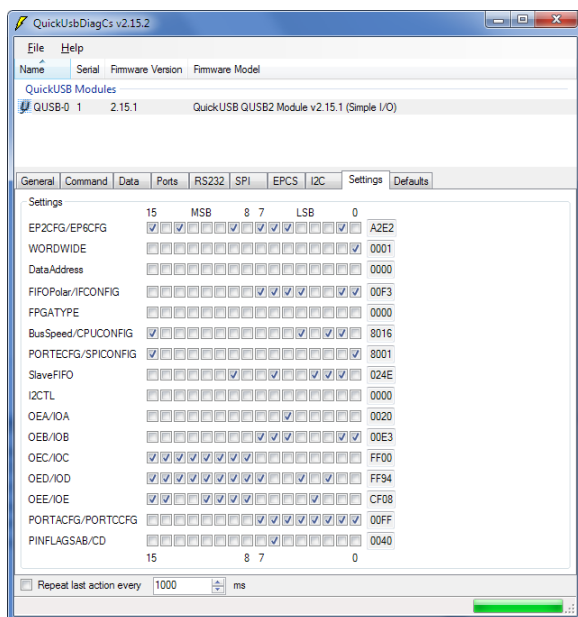

Figure 5 – QuickUSB Diagnostics “Settings” Tab
- b. Under the “FIFOPolar/IFCONFIG” setting, which corresponds to the SETTING_FIFO_CONFIG, check bits 0 and 1 (if they are not already checked) to enter Slave FIFO mode (See Figure 5)
- c. Under the “FIFOPolar/IFCONFIG” setting, which corresponds to the SETTING_FIFO_CONFIG, ensure that bit 3 is unchecked to enabled Synchronous Slave FIFO mode (as opposed to asynchronous Slave FIFO) and that bit 4 is unchecked to use normal IFCLK polarity (See Figure 5)
- a. Reset the endpoint FIFOs by unchecking and checking bit 0 of the “FIFOPolar/IFCONFIG” setting (See Figure 5)